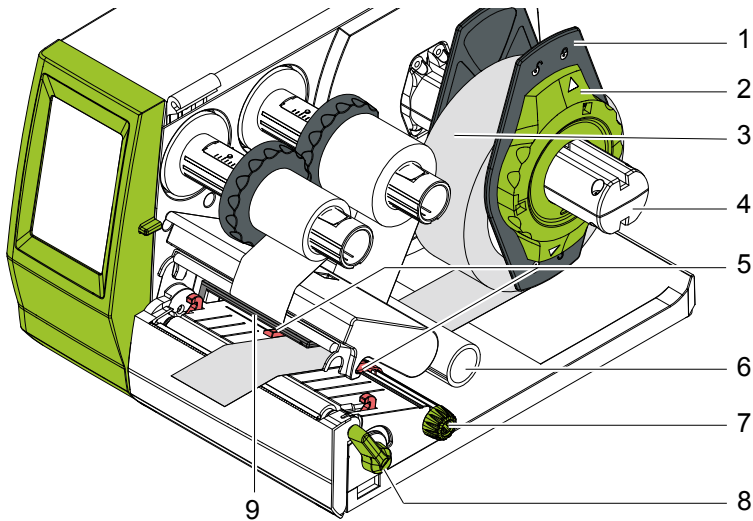

Fig. 9 Loading Continuous Media from Roll
5. Adjust position of the guide on the take-up hub to the width of the ribbon core (3) and push ribbon core on the take-up hub (2).
6. Guide transfer ribbon through the printing unit as shown in Fig. 9.
► **Guide transfer ribbon over the label sensor (7).**